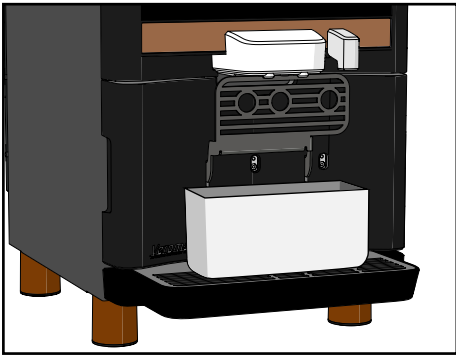

Figure 43.
13. Place the container under the coffee spout (see Figure 43).